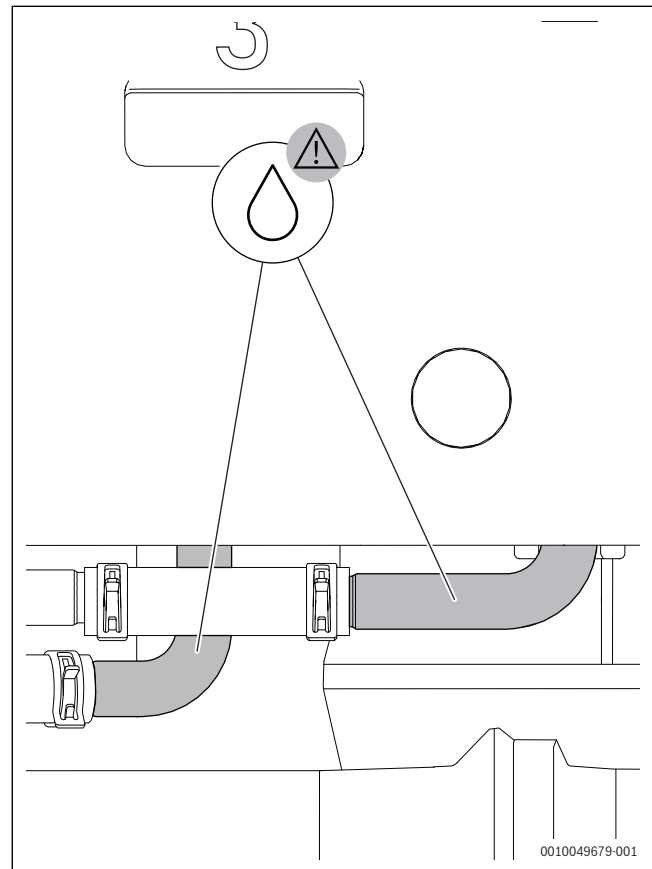

Fig. 19 Pipes that require insulation, when the cooling mode is used below dew point
- ▶ To avoid thermal breach, the installer should insulate the thermal pipes (see → Fig. 19 "Pipes that require insulation, when the cooling mode is used below dew point").